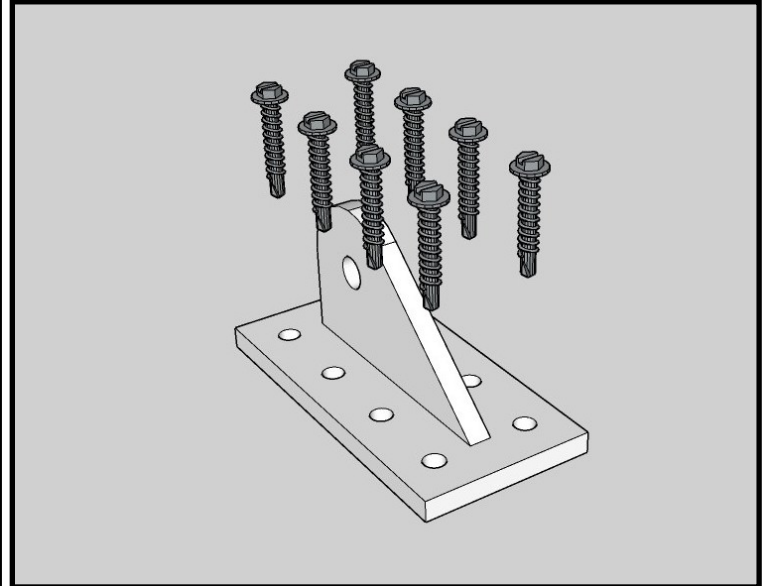

Fig 5
4. If your canopy does not have the Lower Clevis Brackets (#7) pre-assembled, attach them now using the provided #14 x 1" Tek screws. Make sure you locate them at the appropriate locations as indicated by the drawings. They must be mounted into the 2" square tubing below the rain pans (Fig 5).